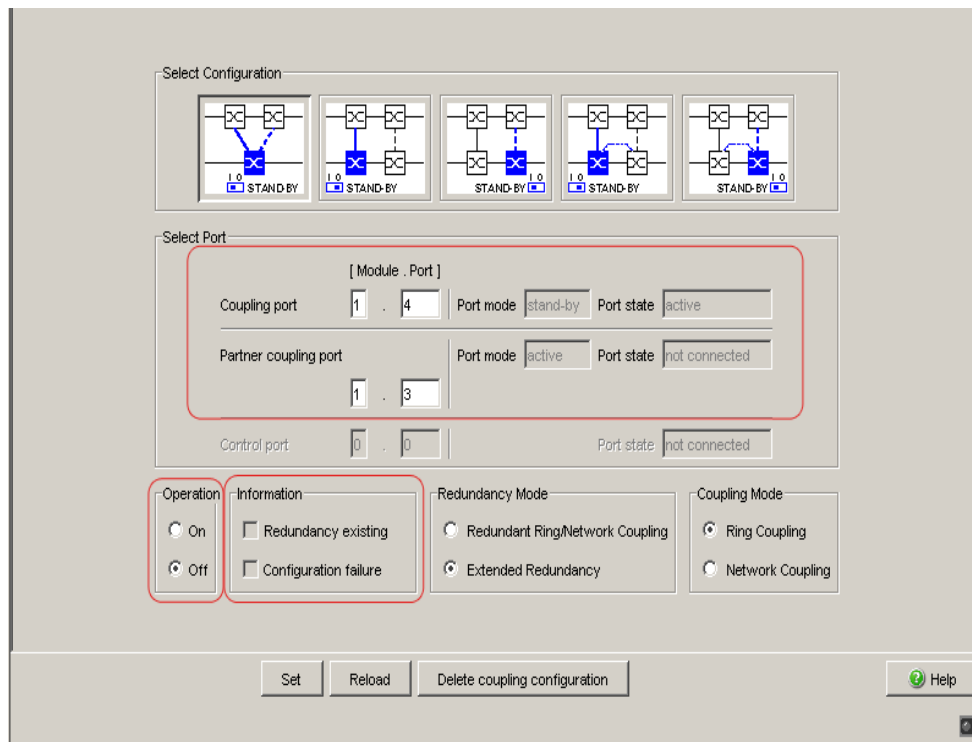

Figure 10: Selecting the port and enabling/disabling operation
- ☐ Select the partner coupling port (see fig. 10), (see table 7).
- ☐ Select the coupling port (see fig. 10), (see table 7).
The displays in the “Select port” frame mean (see fig. 10):
The displays in the “Information” frame mean (see fig. 10):